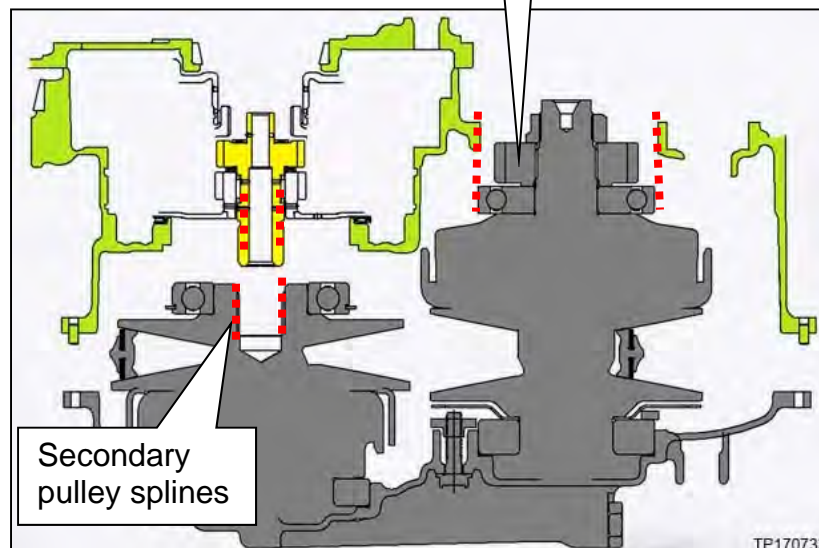

Figure 154
**HINT:** This will allow the splines of the secondary pulley and the planetary carrier plate to align. See Figure 154.